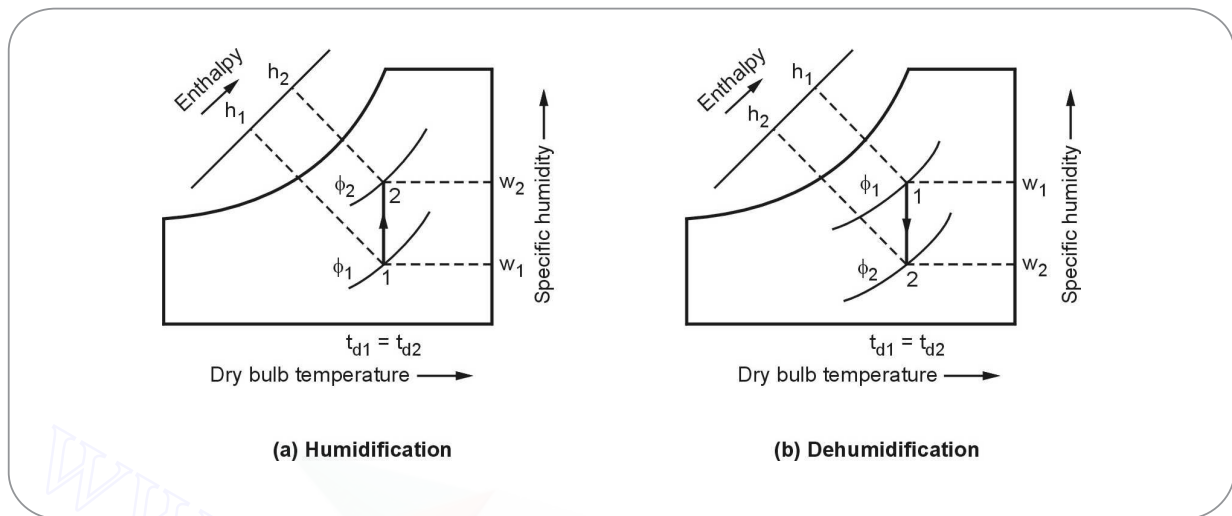

Fig. 5.72 : Humidification and dehumidification
- During perfect humidification process, the dry bulb temperature of air remains constant, therefore it is represented on a psychrometric chart as a vertical line from bottom to top as shown in Fig. 5.72 (a). It is to be noted that in humidification, the RH of air increases from  $\phi_1$  to  $\phi_2$  and specific humidity also increases from  $w_1$  to  $w_2$ .
- Similarly, ideal dehumidification process is represented on a psychrometric chart as a vertical line from top to bottom as shown in Fig. 5.72 (b). During dehumidification process, the RH and specific humidity decrease from  $\phi_1$  to  $\phi_2$  and  $w_1$  to  $w_2$  respectively.